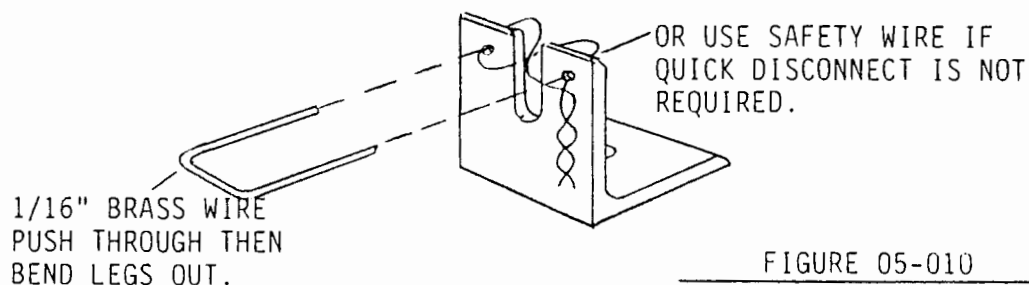

FIGURE 05-010
10. For quick removal of aileron teleflex from retainers make (2) clips from  $1/16"$  brass wire. See Figure 05-010.